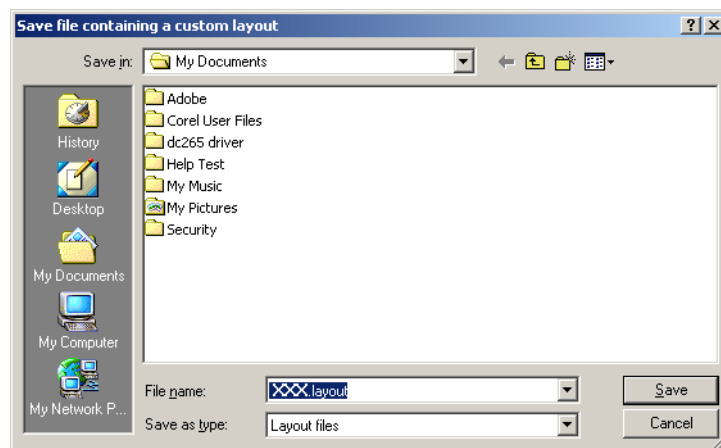

Figure 30 Save Custom Layout Dialogue Box
2. A dialogue box will appear as in Figure 30.